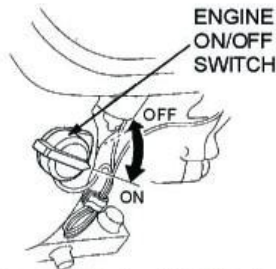

Figure 10. Engine ON/Off Switch
2. Place the *Engine ON/OFF switch* (Figure 10) in the "ON" position.